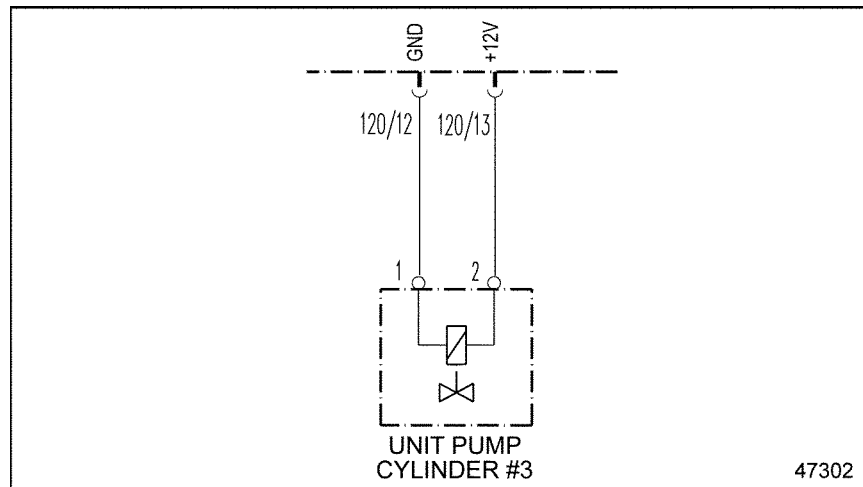

Figure 47-2 Electronic Unit Pump #3
3. Disconnect pins 1 and 2 of Electronic Unit Pump #3. See Figure 47-2.